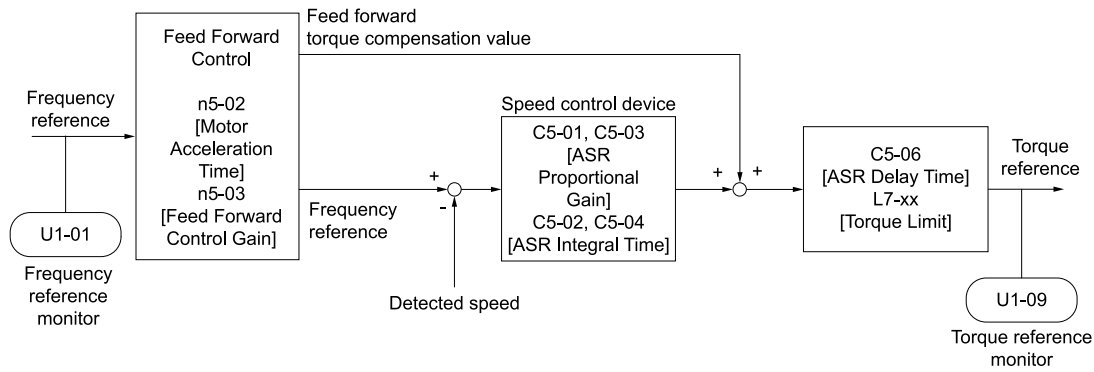

Figure 12.131 Configure Feed Forward Control
Increase the values set in *C5-01* and *C5-03* [ASR Proportional Gain] to apply feed forward control to machines that have low rigidity and are possible to have hunting and vibration or to machines that have a large quantity of inertia. Refer to Figure 12.131 for more information about parameters related to feed forward control.
- If you cannot do Inertia Tuning, refer to Figure 12.131 and set the parameters related to feed forward control individually.